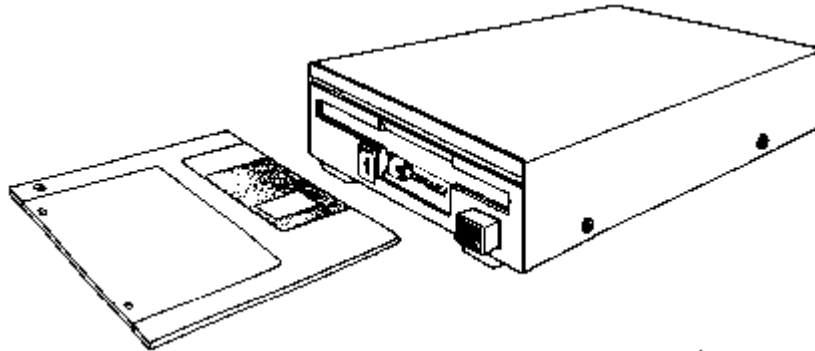

Fig. 2.2. Inserting a 3 1/2" floppy disk into the drive.
b) Push the diskette fully home until a click is heard as shown in Figure 2.2.